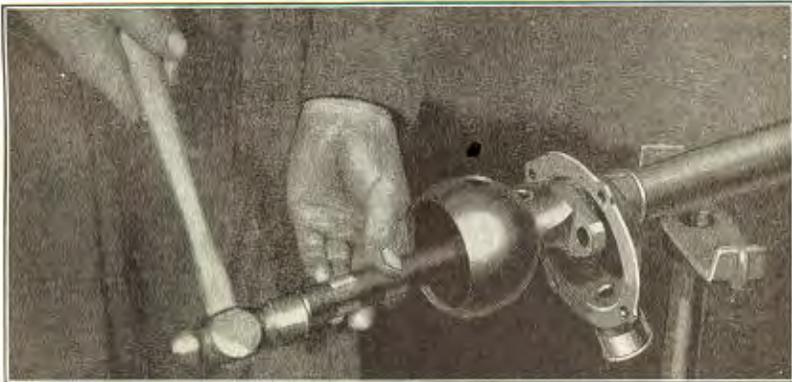

Fig. 340
- 583 Install drive shaft housing front bushing by driving it into the housing with a driver as shown in Fig. 340, making sure that the oil groove in the bushing is in line with the grease cup hole in drive shaft tubing. As the greatest wear on the drive shaft assembly is on